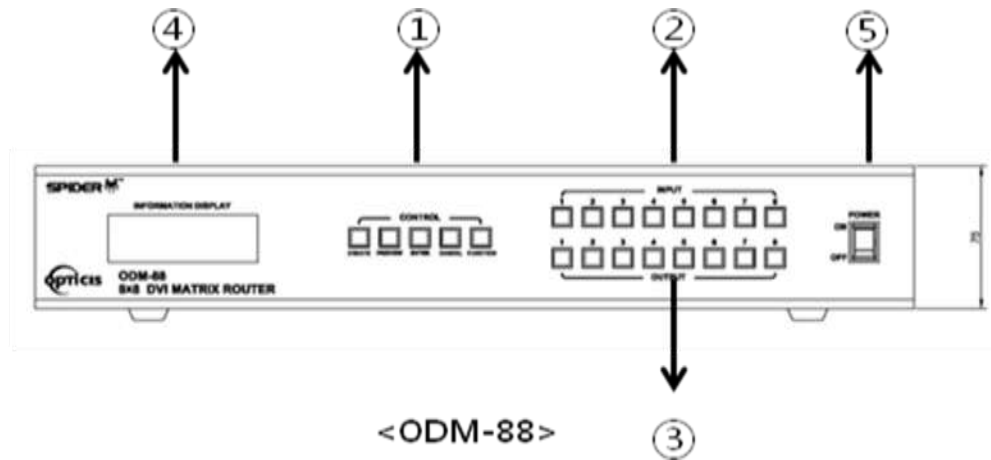

Figure 1-1 Front Panel
- ODM-88 chassis is mountable on a 19" standard rack with rack ears. Control keys, Input-Output buttons and the status LCD display, are placed on the front panel as shown in Figure 1-1.
- Control keys: ①
- Eight (8) LED inputs: ②
- Eight (8) LED outputs: ③
- Status display: LCD displays the control status in 20x4 text mode: ④